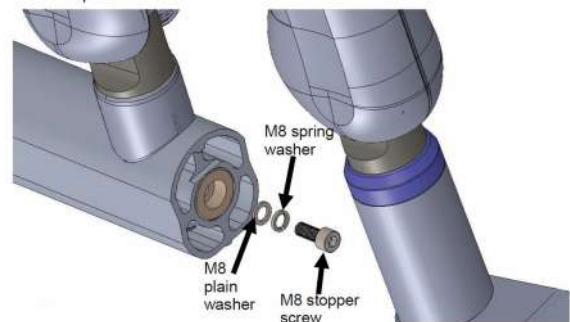

Figure 31
- Rotate and position the Scissor-arm in line to the straight arm as shown in Figure 31 .
- Fix the M8 locking screw along with M8 spring washer and M8 plain washer using 6mm Allen key as shown in Figure 31 .